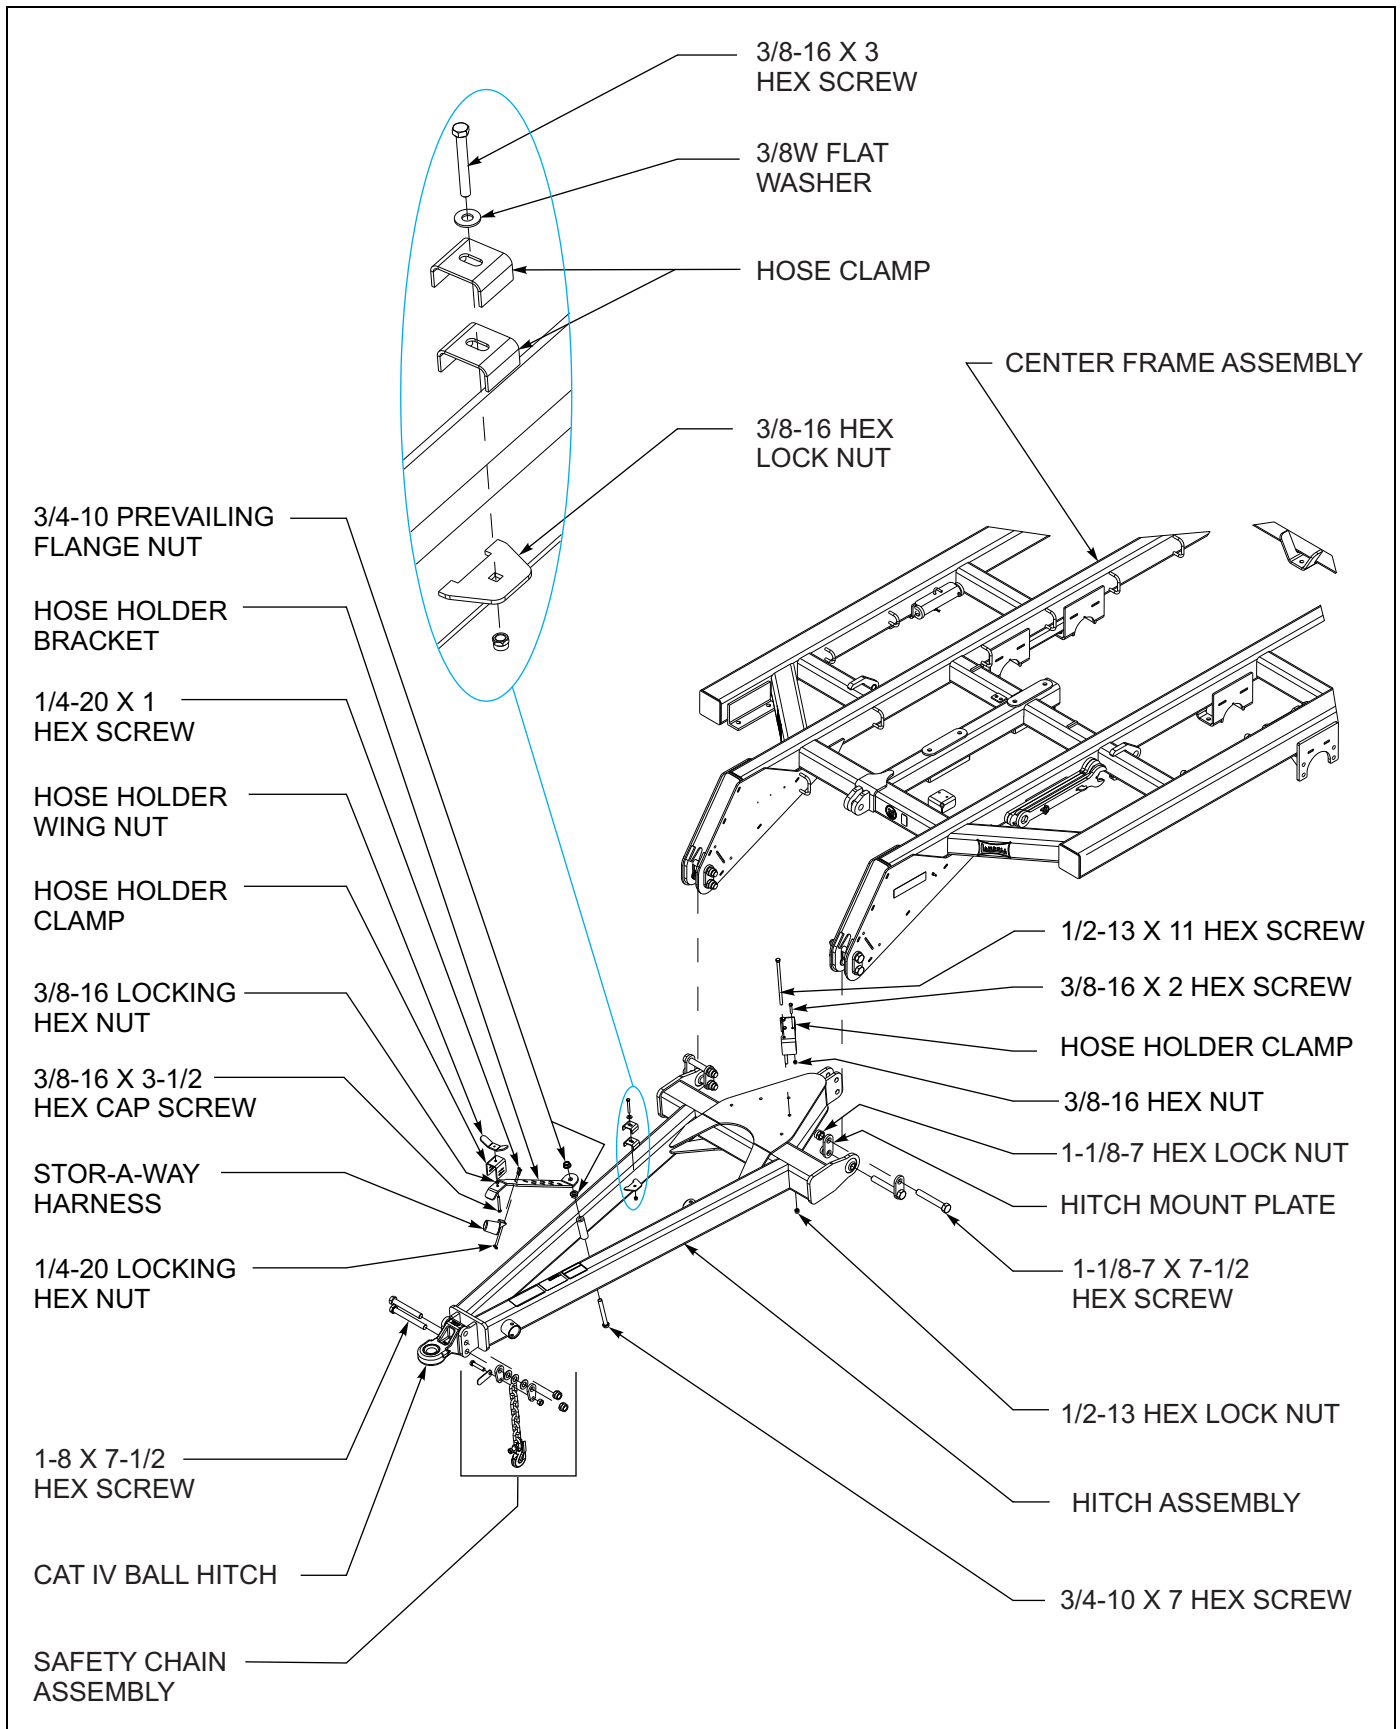

Figure 3-1: Frame and Hitch Assembly
2. Attach the hitch weldment to the front of the center frame using 1-1/8-7 x 7-1/2 hex head cap screws, machine bushings, hitch mounting plates, and hex lock nuts (**See Figure 3-1.**) Machine bushings are provided to remove the slack on each side of the ball joints and center the hitch. Use bushings as required.